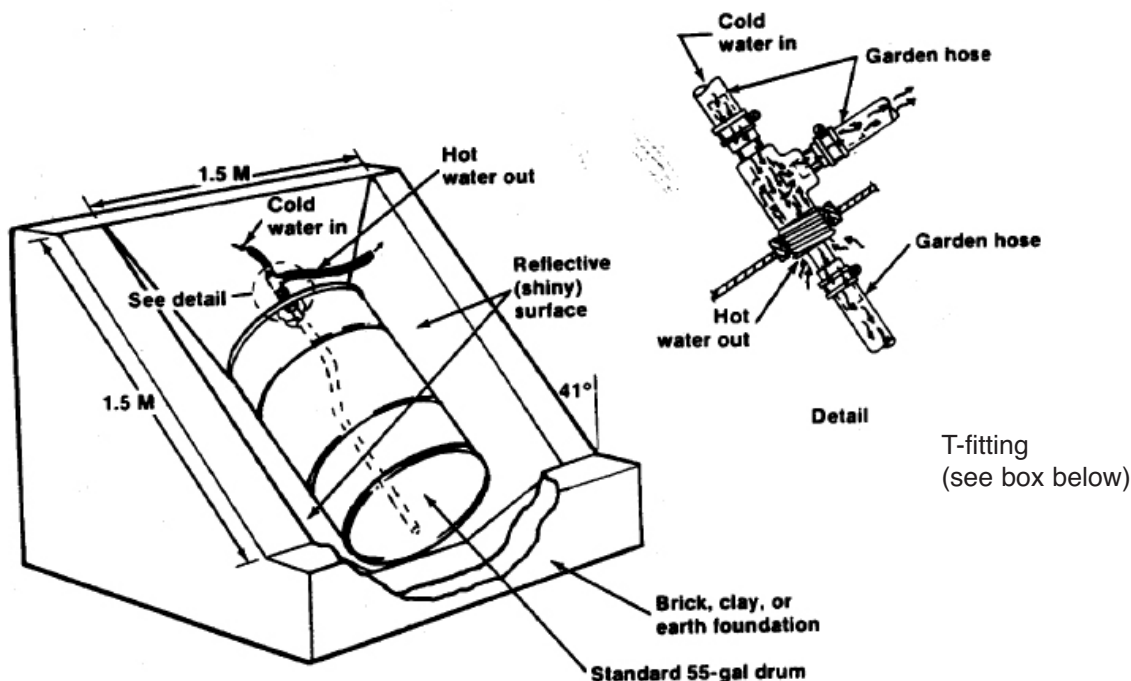

Figure 1
4. Set the third row of blocks on only three walls (west, south and east) to begin the incline of the west and east walls (see Figure 1).
The finished frame’s east and west walls will have a 40-45 degree incline from top to bottom (south to north). (See Figure 1.)